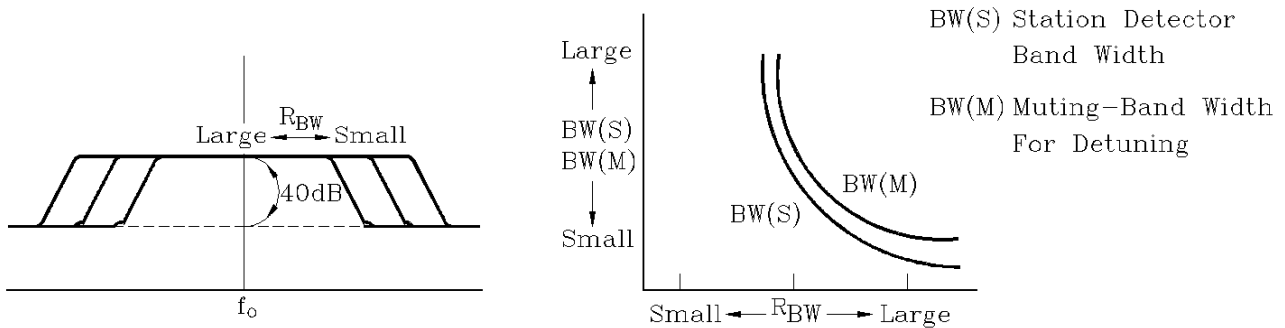
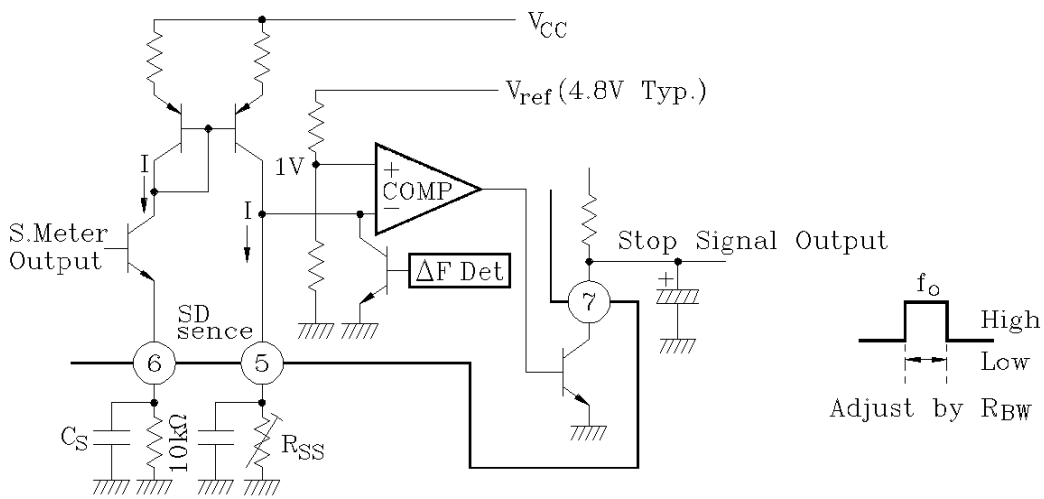

Fig.5
Fig.6
In the ⑨ pin of AFC terminal, \pm currents proportional to the S curve are generated. The AC component of them is smoothed by an external capacity and a DC voltage is generated in ⑨ pin by R_{BW} connected between ⑨ pin and ⑬ pin. When the DC voltage generated by R_{BW} becomes over about $\pm 0.7V$, the detection circuit (Δf Det) is operated to attenuate the AF amplifier by about 40dB. The width of muting for detuning is determined by the resistance value of R_{BW} , but the coil previously described is varied by setting, and set the value of R_{BW} after setting of the coil. The property when varying R_{BW} on the condition of the measuring circuit is shown figure 5.
The station detector (stop signal generator of DTS) detects detuning by the signal intensity of input and Δf detection circuit (Δf Det) respectively and outputs through AND circuit. As shown in Figure 6, the signal meter output is converted into the current I by the $10k\Omega$ connected to ⑥ pin and outputs the current I in ⑤ pin by a current mirror circuit. This current is converted to -INPUT of the comparator where 1V is added to +INPUT. Therefore, the stop signal sensitivity can be adjusted by varying the value of the R_{SS} connected to ⑤ pin. Also, the variable width of the stop signal sensitivity is set widely as about 40dB μ by IF input voltage (when $R_{SS}=2k\Omega \sim 10k\Omega$). The band width is varied by R_{BW} as shown in Figure 5.